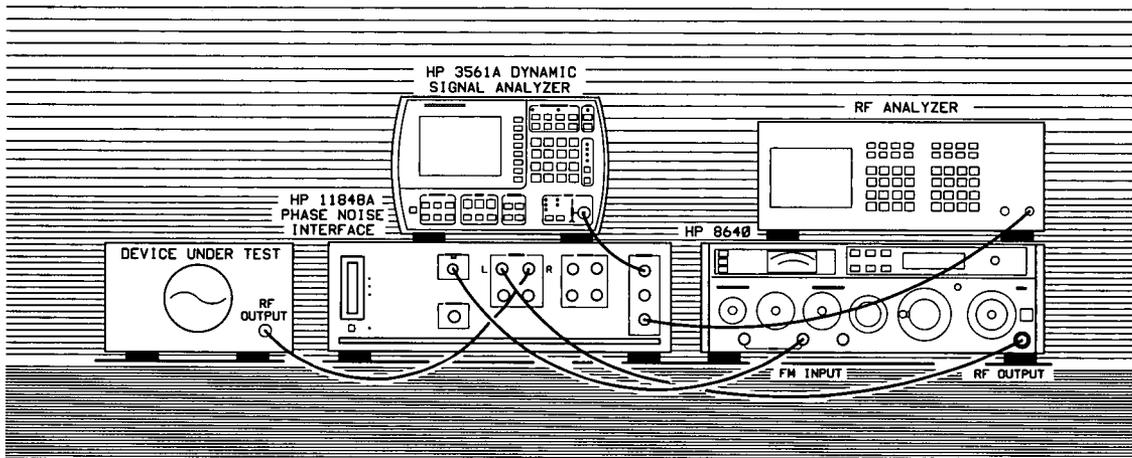

Figure 3-11. Setup Diagram for the Free-Running RF Oscillator Measurement Example.
3. When the Connect Diagram appears on the HP 3048A's display, connect the signal paths as shown on the display. (Figure 3-11 also shows the cable connections for this measurement.) Table 3-6 provides additional setup considerations that will help you ensure that your measurement results will be valid.